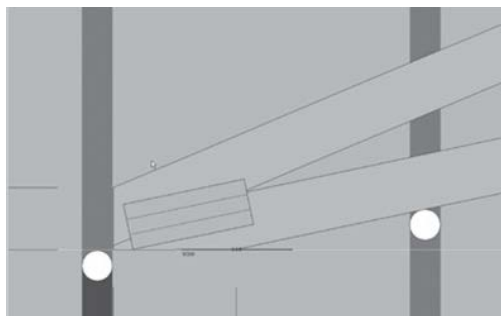

FIGURE 37
6. The selected area will be displayed in a zoom mode (Figure 37)